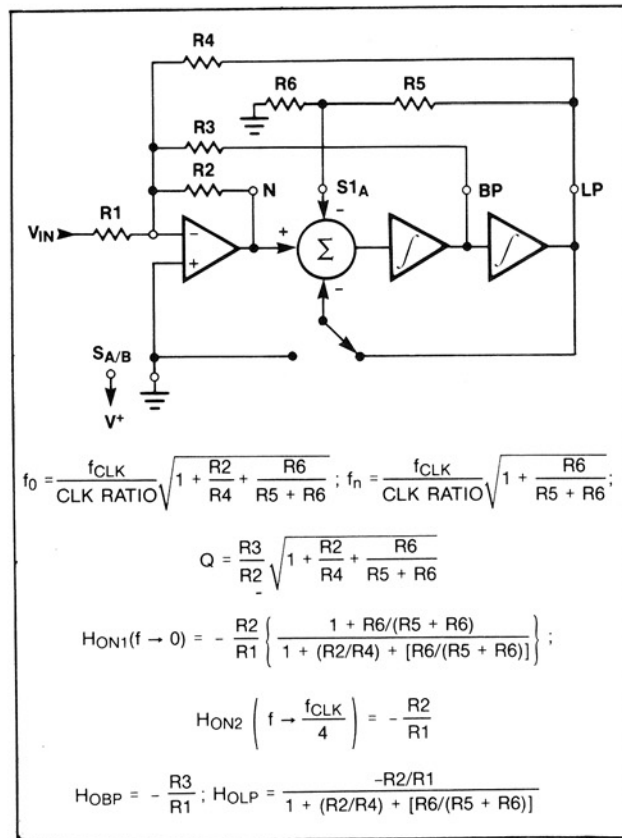
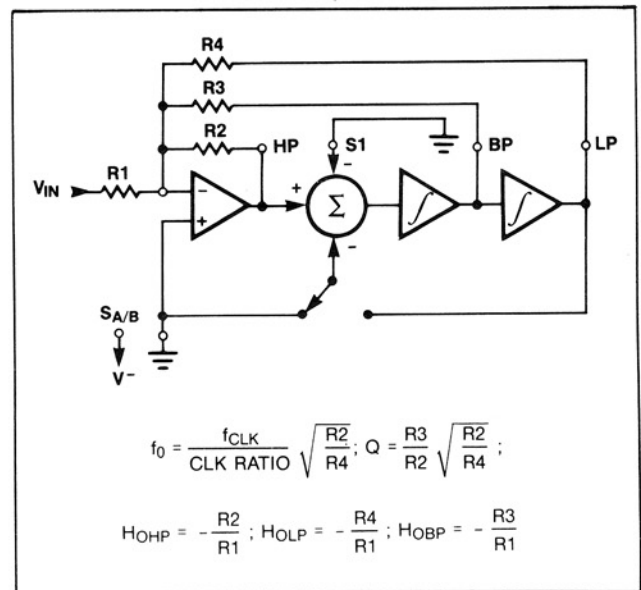

Figure 11. Mode 2a: 2nd-Order Filter Providing Notch, Bandpass, Lowpass
Figure 13. Mode 3: 2nd-Order Filter Providing Highpass, Bandpass, Lowpass
**MODE 3 and 3A** (Figures 13, 14) allow the most flexible tuning of  $f_0$  and  $f_N$  for pole-zero filters such as elliptics and is recommended when the  $f_0$ s are comfortably within the ranges listed in Table 1.
Although Mode 3A's output is labeled "Notch", it is used for cascaded bandpass, lowpass, and highpass filters as well (see Figure 11).
**MODE 3 and 3A** (Figures 13, 14) provide a highpass output. Mode 3 is preferred for all-pole filters such as Bessel, Butterworth and Chebyshev. In 4th-order and greater filters with zeros such as elliptics, Mode 3A sections can be cascaded (using the "Notch" output, Figure 11).